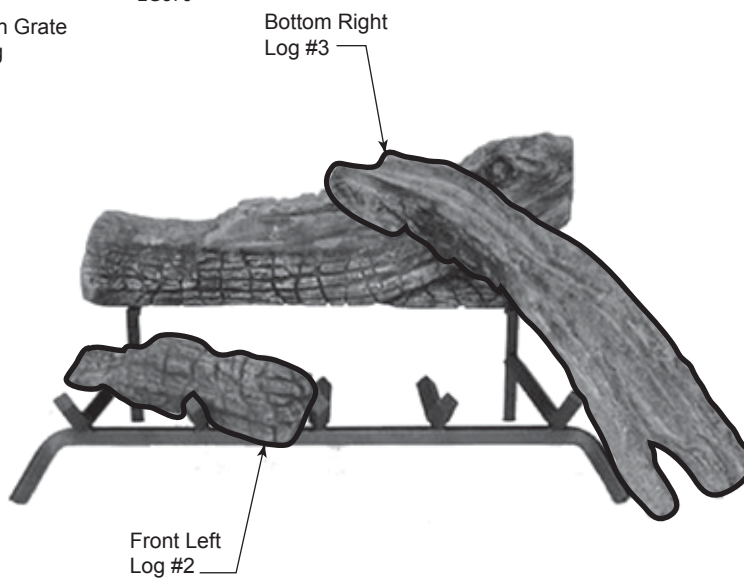

**Figure 64 -
3. Place Front Left Log #2 in front of back log on left arm of grate. Rest end of bottom left log between second and third prong of grate. *Figure 64*
4. Place end of Bottom Right Log #3 on cutout of back log #1. Rest other end of right bottom log to the outside of fifth grate prong. *Figure 64*